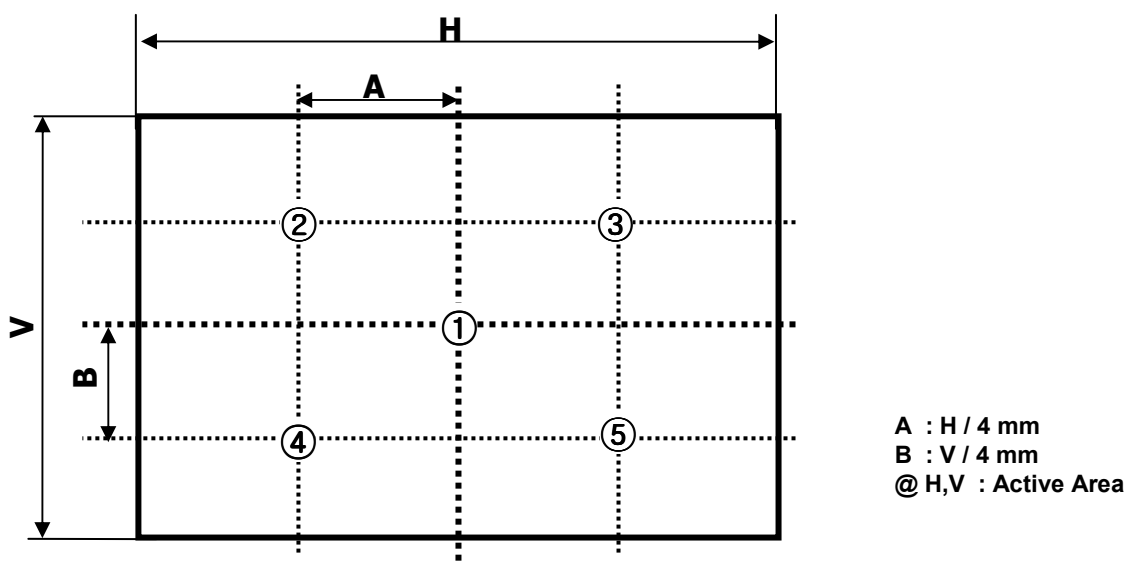

FIG. 2 5 Points for Luminance Measure
2. Surface luminance are determined after the unit has been 'ON' and 60min after lighting the backlight in a dark environment at $25 \pm 2^\circ\text{C}$. Surface luminance is the luminance value at center 1-point across the LCD surface 50cm from the surface with all pixels displaying white. For more information see the FIG. 2.
Where L_{on1} to L_{on5} are the luminance with all pixels displaying white at 5 locations . For more information, see the FIG. 2.